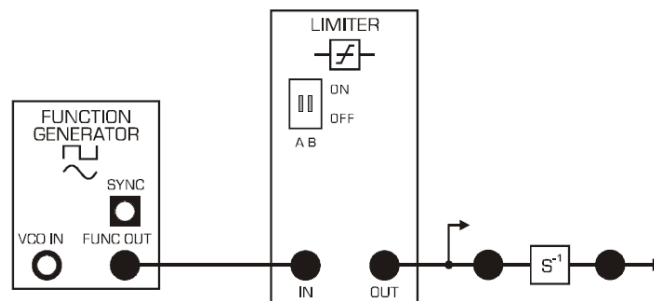

Figure 2-6 Diagram of the model for sawtooth generation
1. Connect the circuit shown in Figure 2-6. Settings are as follows: